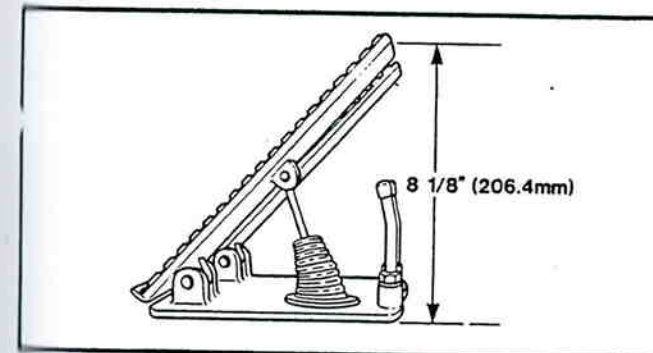

Figure 9-5. Pedal Travel Adjustment.
2. Shorten the accelerator bell crank rod until the pedal reaches 8 1/8" (206.4 mm). Measure from the floor to the underside tip of pedal. See figure 9-5.
NOTE: The pedal stop must be installed with the bend as shown in figure 9-5. The tip of the stop must also line up with the recess on the underside of the pedal.